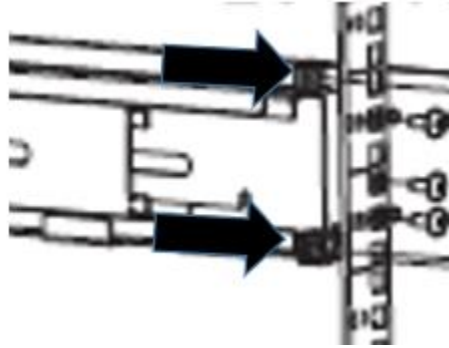

Figure 3: Install Cage Nuts in the Front Equipment Rail with Square Holes
6. Install the 4x cage nuts in the rack front equipment rail, with square holes. One in each of the first locations below the bottom rail kit screw and one in each of the first locations above the top rail kit screw (see Figure 3).